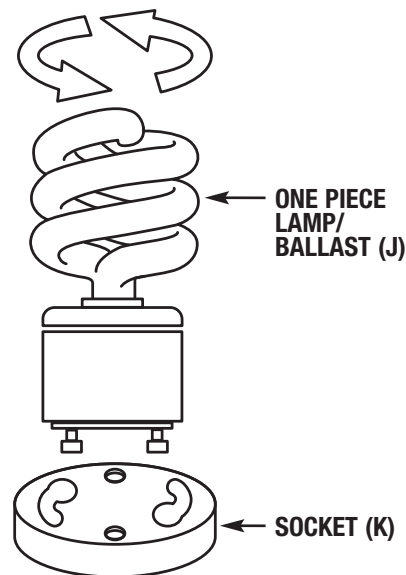

FIGURE 3
Install lamp/ballast (J) (Fig. 3) by twisting into socket.